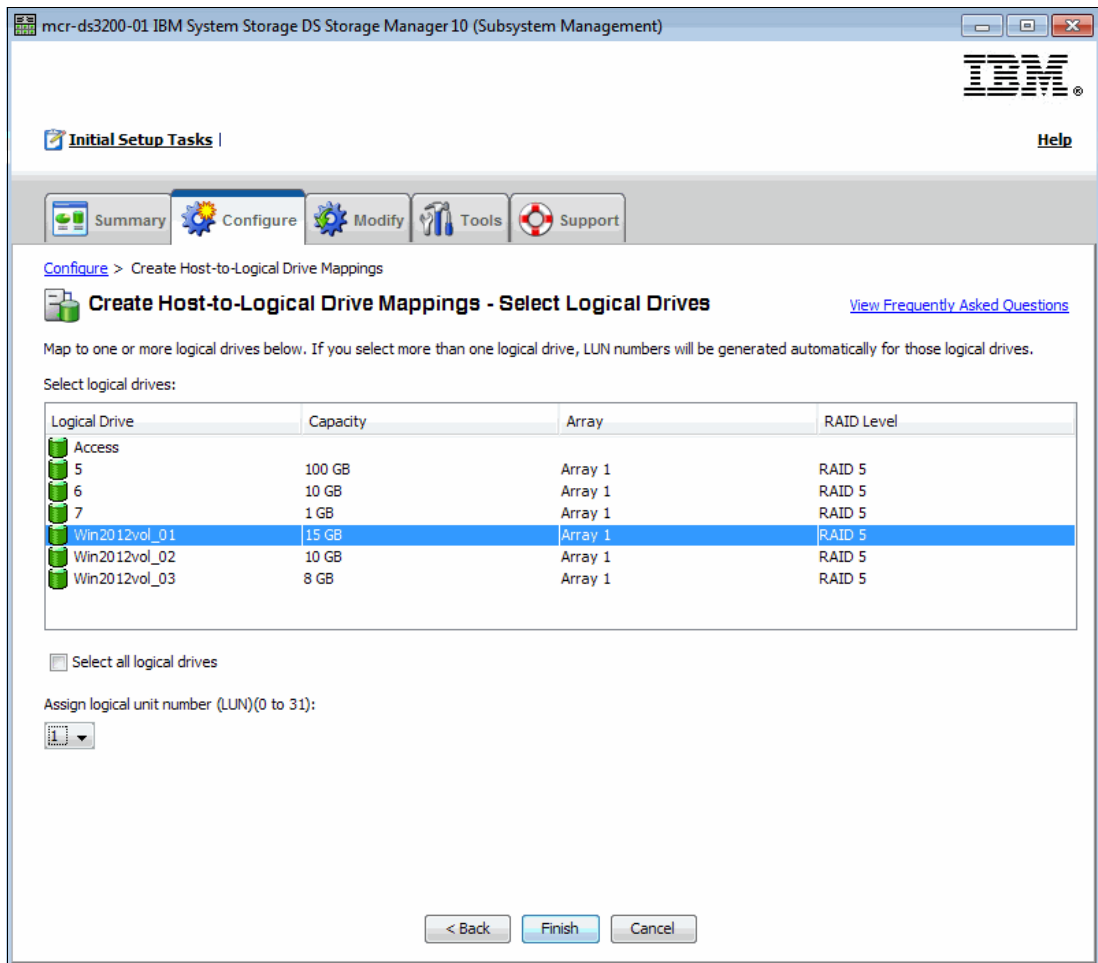

Figure 6-39 Selecting volume to map to Storwize V3700 host: IBM DS3200
- Select the volume to be mapped to the host and, using the data recorded in 6.2.5, “Recording migration information” on page 252, configure the correct SCSI ID for the volume. Click **Finish** to make the mapping, as shown in Figure 6-39.